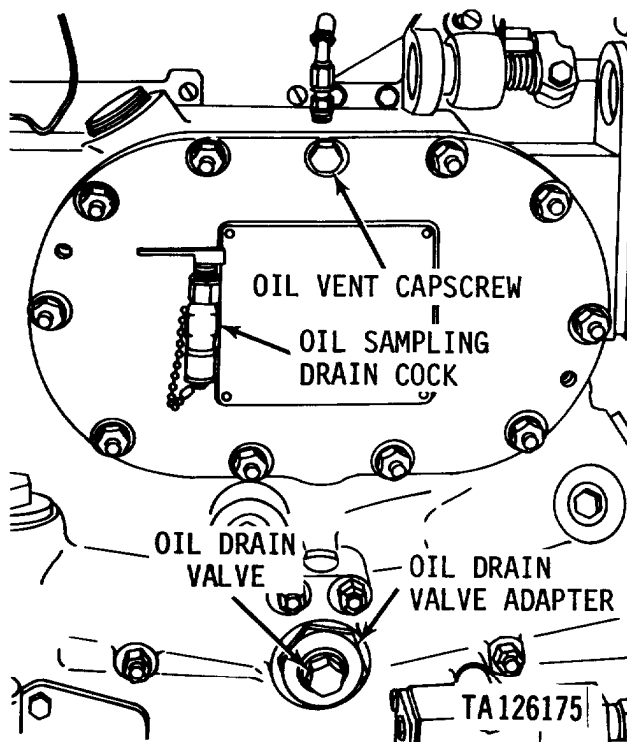

Figure 3-3. Draining oil filter housing and oil coolers.
c. Remove oil vent capscrew and seal washer (fig. 3-3). Remove and discard seal washer. Loosen oil drain valve six complete turns and allow oil to
d. After oil is drained from engine install oil vent capscrew in damper housing (fig. 3-3) and oil pan drain plug (fig. 3-2) in oil pan.
d. 1. Remove oil sampling drain cock (fig. 3-3) on Model AVDS-1790-2DR only.